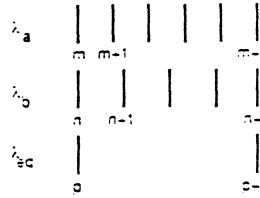

Fig. 3: Synthesis of beat wavelength  $\lambda_{beat}$  using shorter wavelengths  $\lambda_a$  and  $\lambda_b$ .
**Figure 3.** Dependence of dynamic friction coefficient on the number of sliding cycles for the couple consisting of  $\text{SiO}_2/\text{Si}$  and ceramic  $\text{Al}_2\text{O}_3/\text{TiC}$  rectangular slider: (a) uncoated  $\text{SiO}_2$ , (b)  $\text{SiO}_2$  with three CdA layers, and (c)  $\text{SiO}_2$  and slider with one CdA layer each. The load was 150 mN, and an arrow indicates failure with an optically detectable wear track.